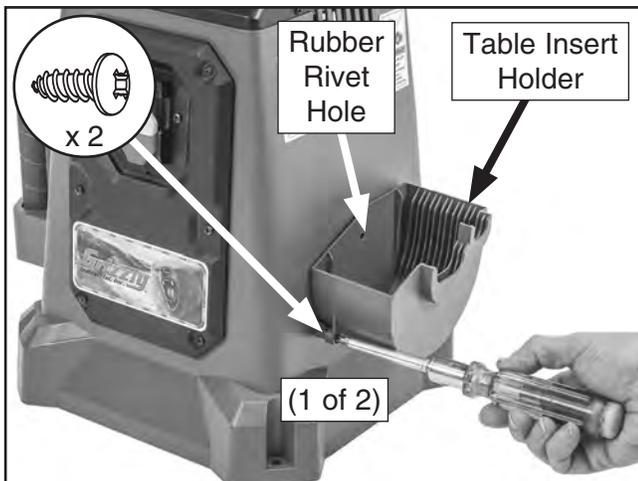

Figure 9. Attaching table insert holder.
2. Attach table insert holder to right side of spindle sander with (2) M4 x 10 tap screws, as shown in **Figure 9**. Push plastic rivet 7.5 x 21mm through matching holes in holder and spindle sander housing.